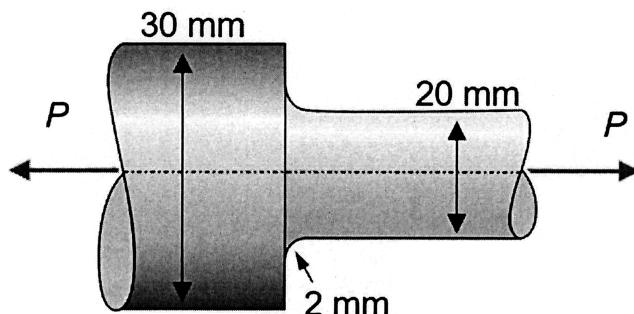
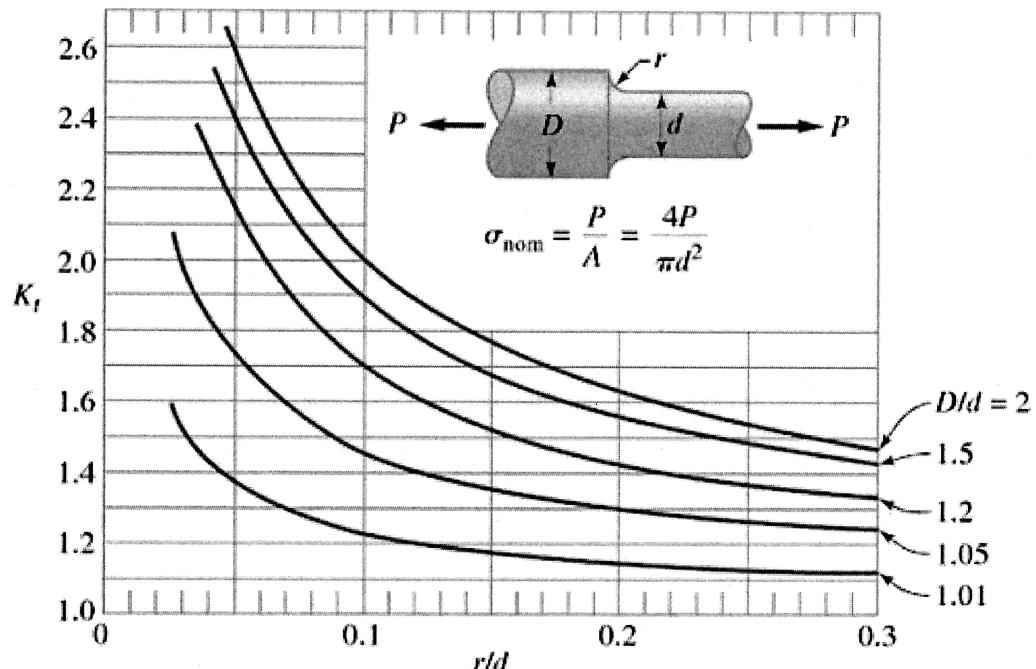
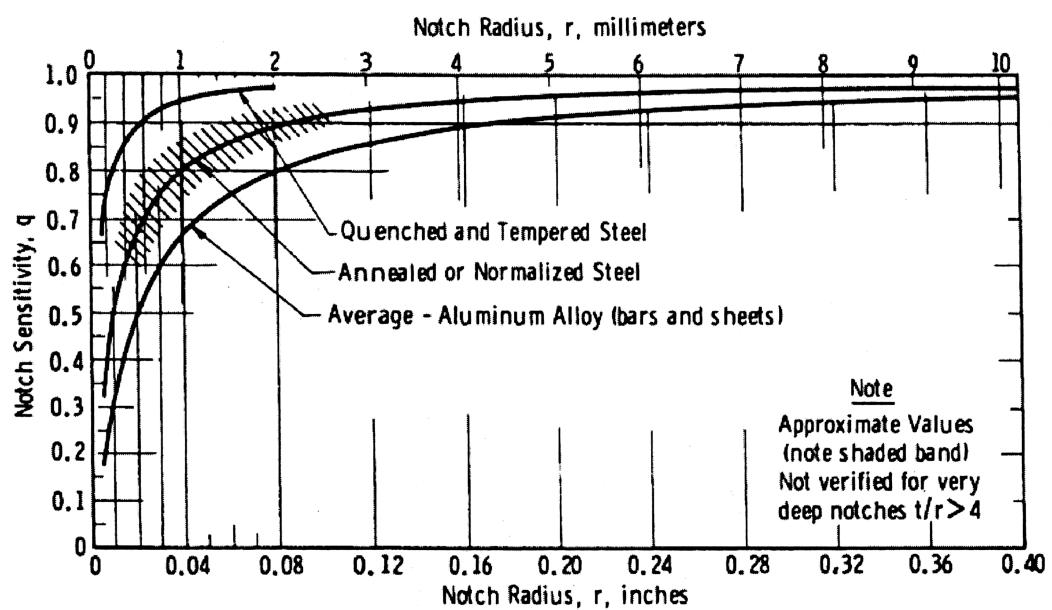

Figure 2a
Figure 2b
Figure 2c
- (b) A stepped rod with the dimension shown in Figure 2a is subjected to a cyclic axial load of an amplitude of  $P$ . The rod is made of quenched and tempered steel with an endurance limit of  $S_e = 400 \text{ MPa}$  and ultimate tensile strength of 1600 MPa. Using the stress concentration factor  $K_t$  in Figure 2b and notch sensitivity factor  $q$  in Figure 2c, determine the maximum  $P$  allowed for the rod to achieve an infinite life.
Note: Figures 2b & 2c appear on page 3.